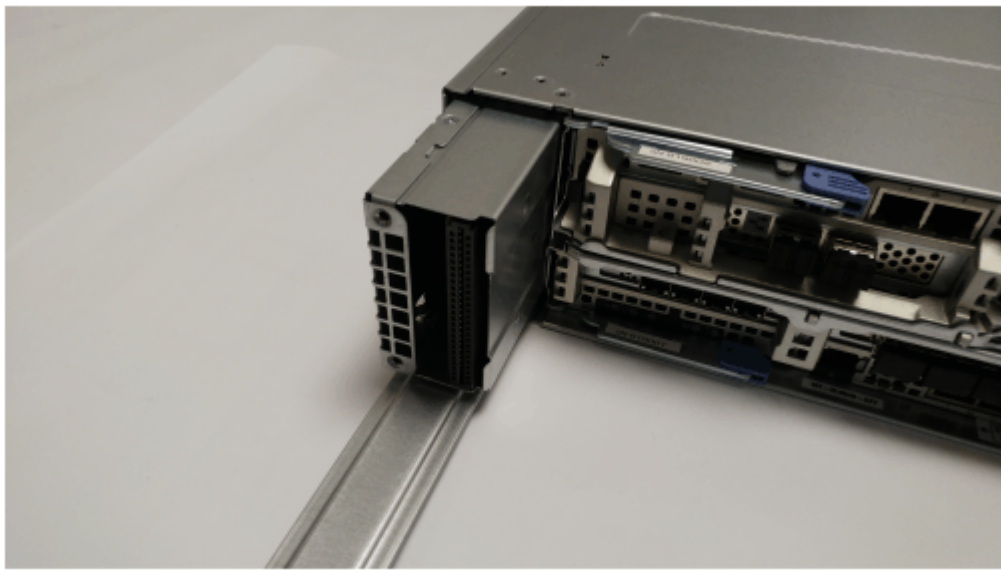

Figure 109. Removing a power interposer
3. Slide the power interposer out until it is clear of the enclosure rear, as shown in Figure 109 on page 146.